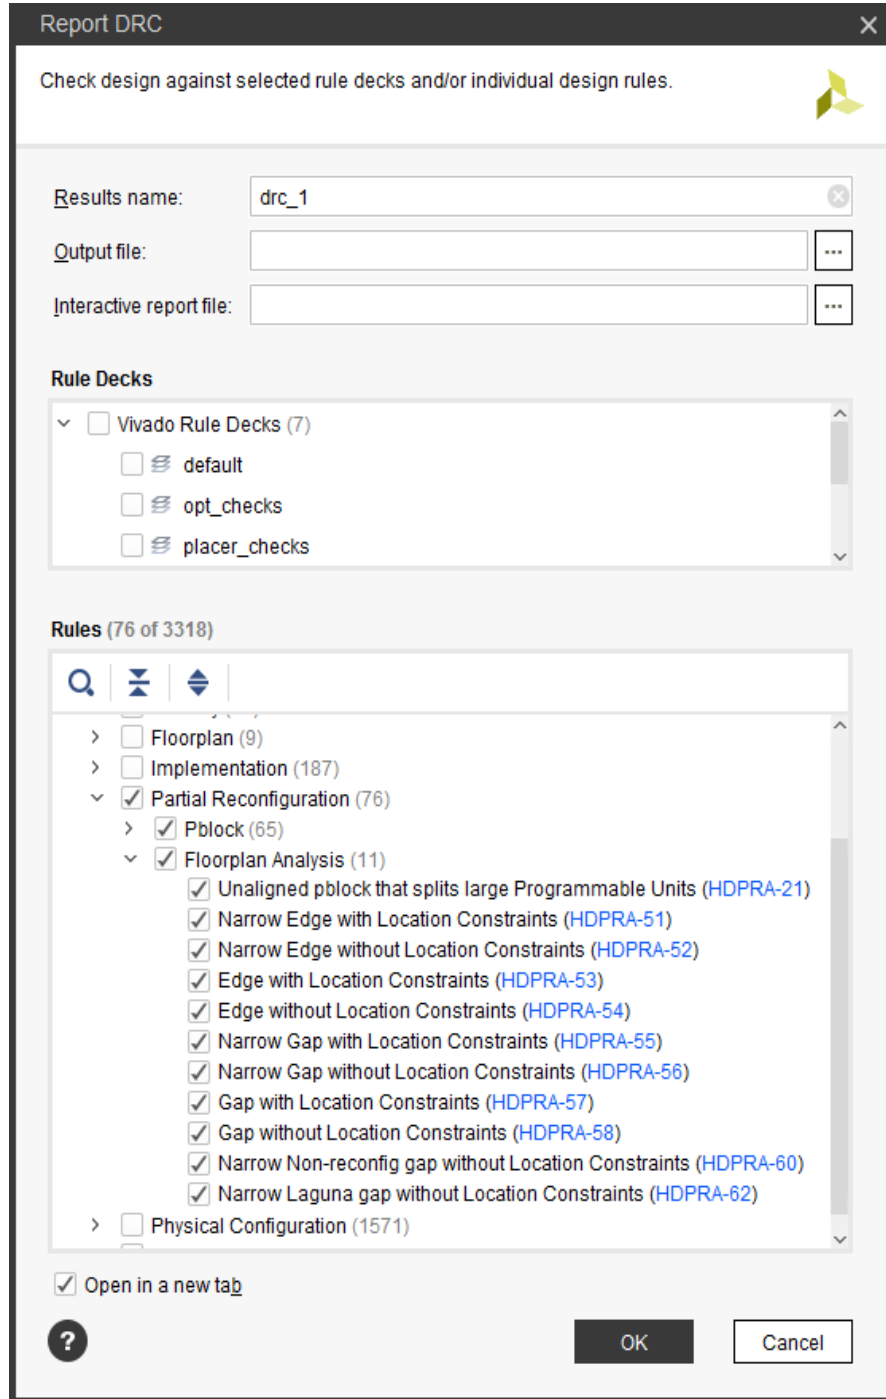

Figure 3-1: Partial Reconfiguration DRCs in the Vivado IDE
4. Design rule checks (DRCs) can be issued to validate the floorplan and other design considerations for the in-memory configuration. To run, select **Tools > Report > Report DRC** and ensure the Partial Reconfiguration checks are present (see Figure 3-1, page 35). Note that if `HD.RECONFIGURABLE` has not been set on a Pblock, only a single DRC is available, instead of the full complement shown below.